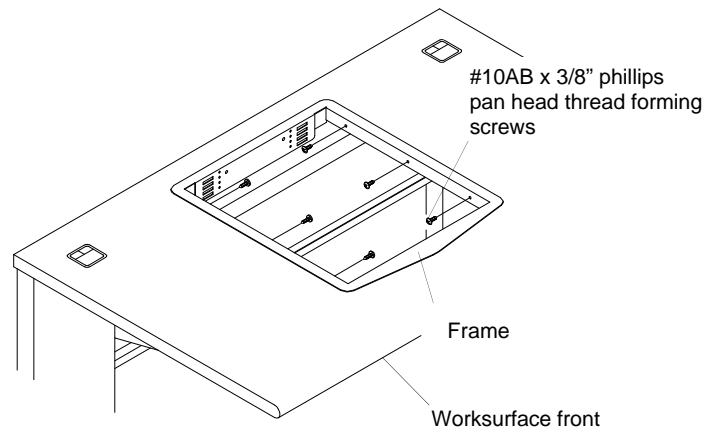

Figure 1
1. Insert the **Frame** into the pre-cut opening in the work- surface and fasten it in place using the #10AB x 3/8" phillips head thread forming screws. See **figure 1**.